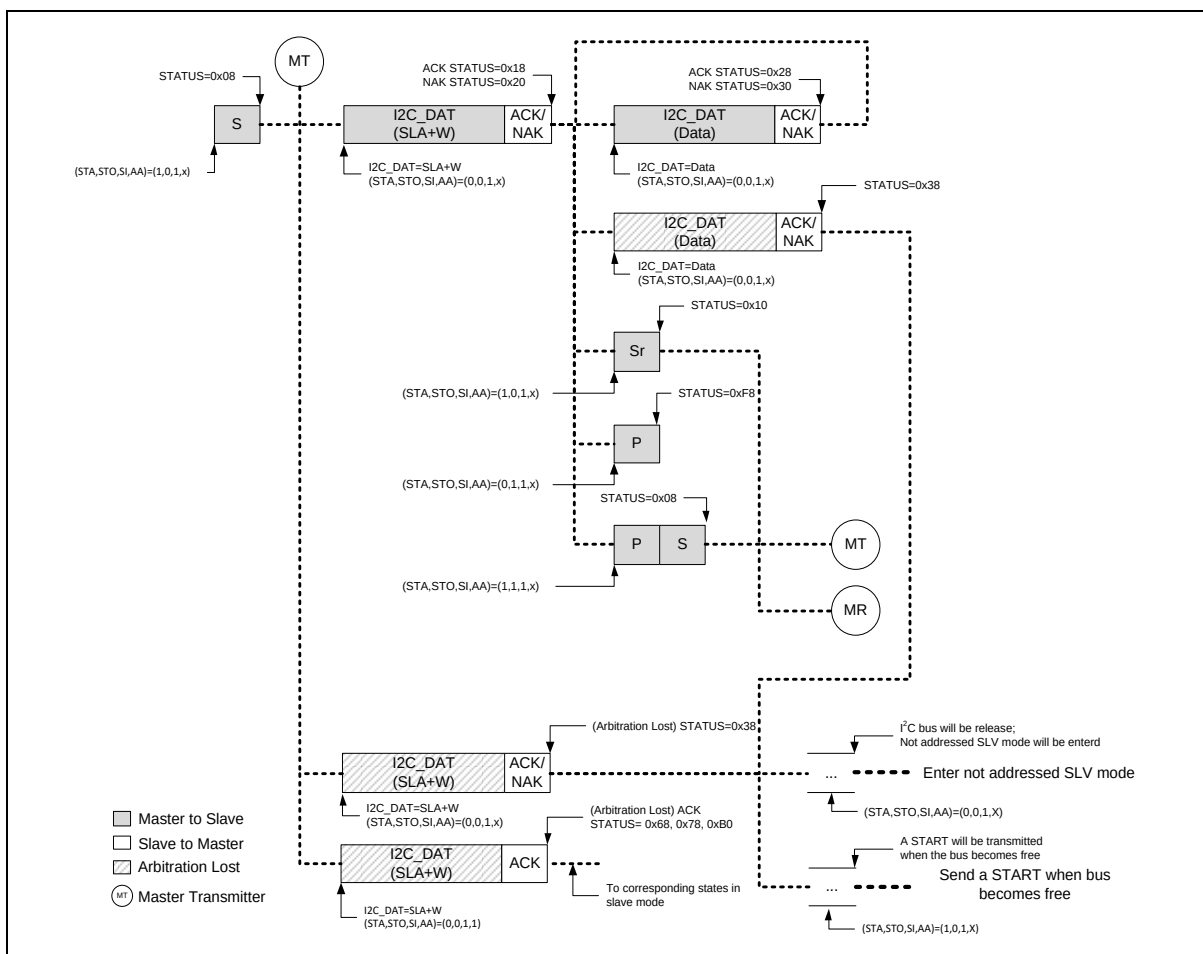

Figure 6.17-12 Master Transmitter Mode Control Flow
In Figure 6.17-12 and Figure 6.17-13, all possible protocols for I²C master are shown. User needs to follow proper path of the flow to implement required I²C protocol.
In other words, user can send a START signal to bus and I²C will be in Master Transmitter (MT) mode (Figure 6.17-12) or Master receiver (MR) mode (Figure 6.17-13) after START signal has been sent successfully and new status code would be 0x08. Followed by START signal, user can send slave address, read/write bit, data and Repeat START, STOP to perform I²C protocol.